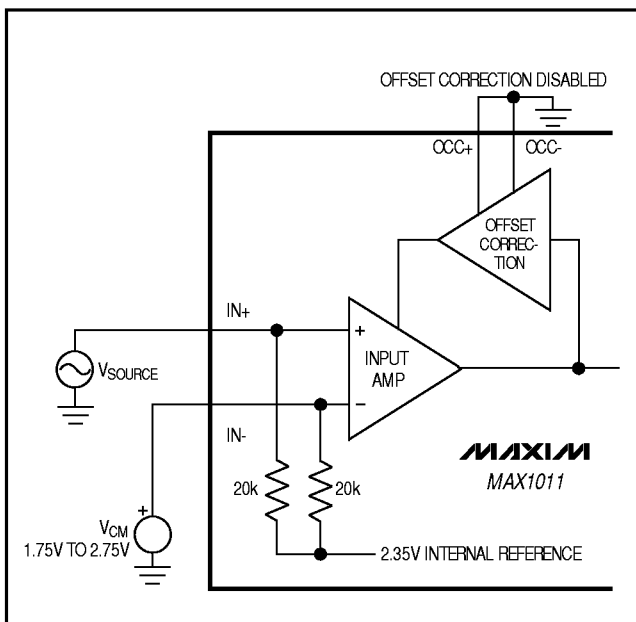

Figure 4. Single-Ended DC-Coupled Input
**Note 2:** A typical application will AC couple the analog input to the DC bias level present at the analog inputs (typically 2.35V). However, it is also possible to DC couple the analog input (using differential or single-ended drive) within this common-mode input range (Figures 4 and 5).
For applications where a DC component of the input signal is present, Figures 4 and 5 show single-ended and differential DC-coupled input circuits. The amplifier's input common-mode voltage range extends from 1.75V to 2.75V. To prevent attenuation of the input signal's DC component in this mode, disable the offset-correction amplifier by grounding the OCC+ and OCC- pins (Figures 4 and 5).